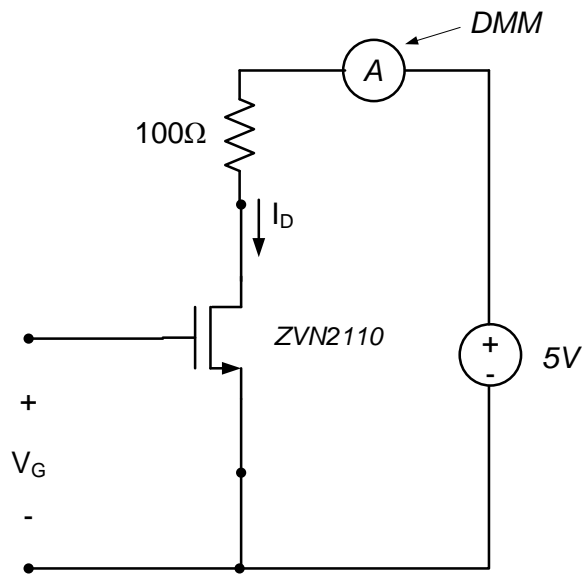

Figure 2. VCCS circuit schematic.
1. Connect the circuit shown in Fig. 2. Two power supplies are used in the circuit. Use channel 1 of your Arbitrary Waveform Generator (W1) to apply the (variable) gate voltage, V_G . Use of the waveform generator to apply constant voltages is presented in Appendix A of this assignment. Use the positive power supply (VP+) to provide a constant 5V to the MOSFET drain; this power supply provides the drain current I_D .
The 100Ω resistor in Fig. 2 is used to limit the amount of current flowing through the MOSFET. If no resistor is used between the power supply and the MOSFET, an excessive amount of current can flow through the MOSFET resulting in damage to the MOSFET and/or the rest of the circuit. The 100Ω resistors in your analog parts kit can be identified by the color bands on the side of the resistor – they will be as shown in Fig. 3. We will discuss resistors in detail in later modules. Use an ohmmeter to measure the resistance of the resistor and record this value in your lab notebook (the actual resistance will most likely be slightly different from 100Ω).
Connect your DMM as shown in Fig. 2 to measure the current I_D .